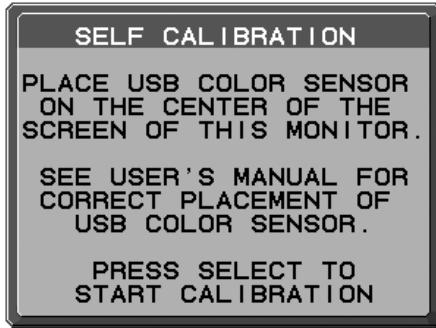

Figure S.3
6. The procedure will ask for the USB color sensor to be placed on the center of the display panel (**Figure S.3**). Tilt the display panel approximately 5° backward and place the USB color sensor in the center of the display panel (**Figure S.1**).